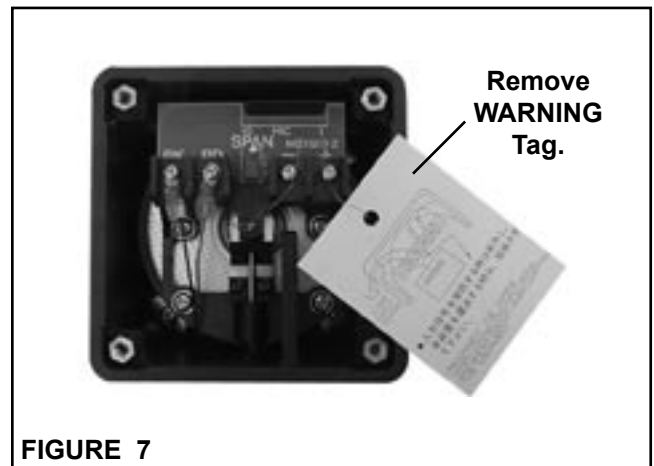

FIGURE 7
1. Remove cover from EN40, then remove WARNING Tag "INPUT" terminals (See Figure 7.)